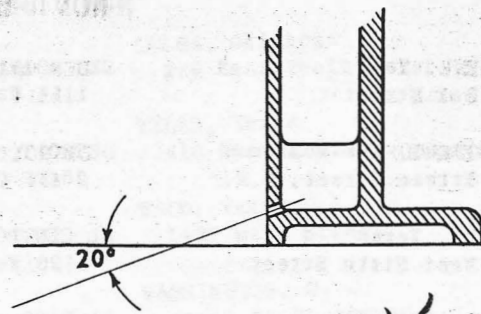

FIG. 3
3. Then, with a No. 53 (or 1/16") drill, drill the hole from the inside of the air horn into the pocket at an angle of approximately 20° (see Fig. 3).